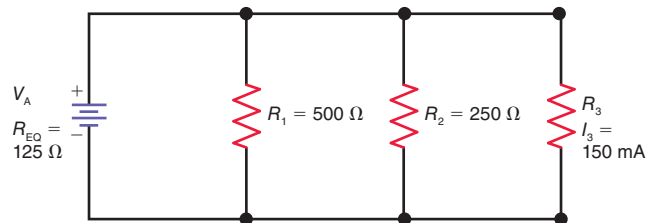

Figure 6-27
6.36 In Fig. 6-27, solve for R_3 , V_A , I_1 , I_2 , I_T , P_1 , P_2 , P_3 , and P_T .